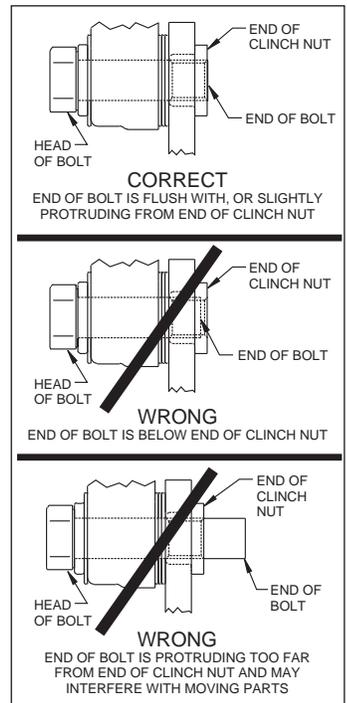

Figure 3. Clinch Nut Engagement Diagram
Assembly Instructions (numbers in parenthesis refer to the parts list, on the preceding page and Figure 1): **CAUTION:** All mounting bolts must fully engage clinch nuts. Be sure to check that all bolts are either flush or protruding through flanged side of clinch nut after shimming, Figure 3.
- NOTE:** Please reference the caution statement at the beginning of the assembly instructions. Mount the caliper (19) onto the caliper mounting bracket (1) using bolts (21) and washers (20), as shown in Figure 1. Initially place two .035" thick shims (22) on each bolt between the caliper and the bracket, Photo 10. Temporarily tighten the mounting bolts and view the rotor (12) through the top opening of the caliper. The rotor should be centered in the caliper, Photo 11. If not, adjust by adding or subtracting shims between the bracket and the caliper. Always use the same amount of shims on each of the two mounting bolts. **NOTE:** The end of each bolt must be flush with or slightly protruding from the head of the clinch nut, as shown in Figure 3. If necessary place spare shims between washer (20) and caliper mounting ear to achieve the proper clinch nut engagement. Once the caliper alignment and clinch nut engagement are correct, remove the bolts one at a time, apply red *Loctite*® 271 to bolt threads, and torque to 40 ft-lb.